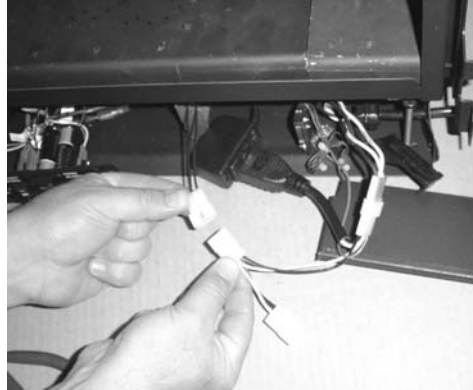

Figure 20
- 12 Attach the power input molex connector on the wiring harness to the molex connector on the insert (see Figure 20). Carefully tuck the wires under the burner, making sure wiring does not contact any hot or moving surfaces. Use wire ties, if necessary, to secure the wiring.